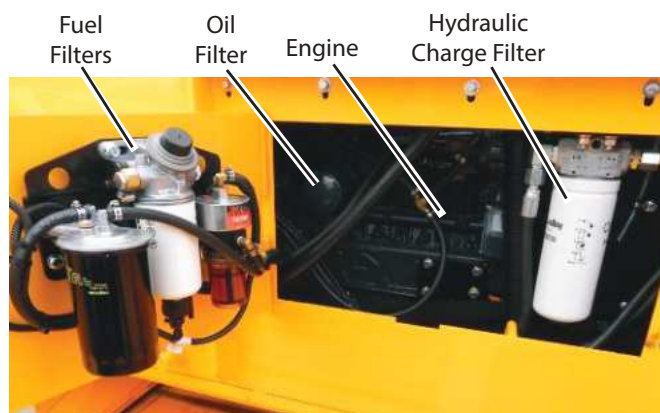

Figure 5-19. Hydraulic Charge Filter
8. Change the hydraulic charge filter by turning filter counterclockwise, then replace with new filter turning clockwise until snug (by hand only). **(Figure 5-19)**
11. Fill the hydraulic oil tank with filtered hydraulic oil. The cold oil level should be about 1/2-inch below the fill level black line on the sight gauge. **(Figure 5-19)**